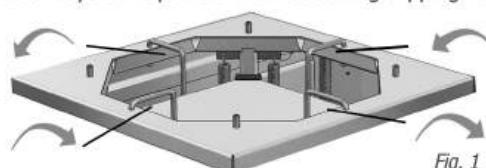
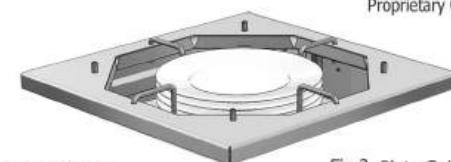

Fig. 1 Plate Guide Adjustment
Fig. 2 Plate Guide Testing
**C) Setting Dispenser Plate Guides To Suit Plate Diameter.** If the dispenser is a heated model, ensure the unit is electrically isolated & remove the polycarbonate lid (if fitted). Lift up each of the plate guides & turn them outwards or inwards to allow the particular plate diameter to fit inbetween them (Fig. 1). The plates can be between between 8"-12" (205mm-305mm) diameter. Test the plate guides are adjusted to suit the required plate diameter by placing a few inside the top of the dispenser (Fig. 2). The diameter is now set.